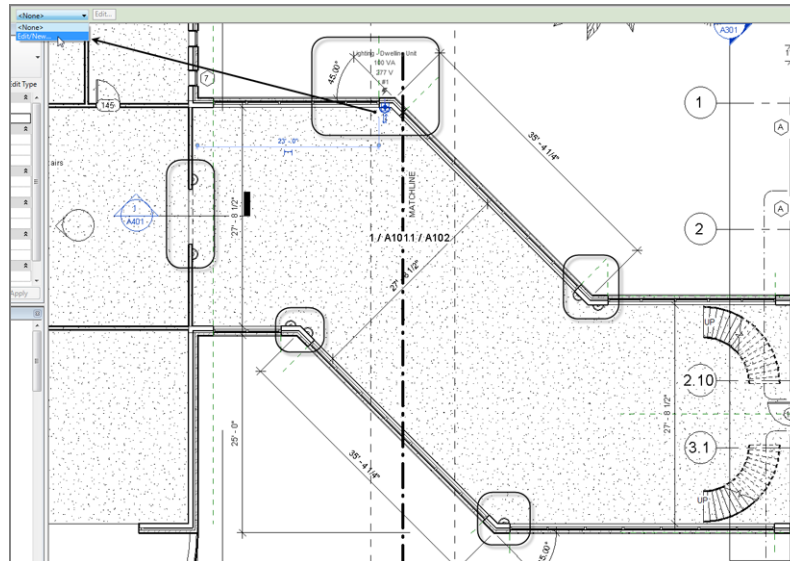

FIGURE 19.12: Adding the interior lighting to the link
11. Place some lights in the link, as shown in Figure 19.12.